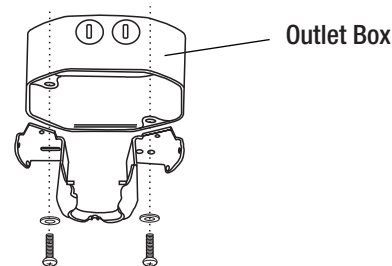

Figure 8
- Secure the mounting bracket (A) to the ceiling outlet box as shown in Figure 8 by using two screws and washers (not provided). When using close-to-ceiling mounting, it is important that the mounting bracket (A) be level. Make sure the mounting bracket is level. You may need to insert additional washers (not provided) between the outlet box and the mounting bracket to make it level.